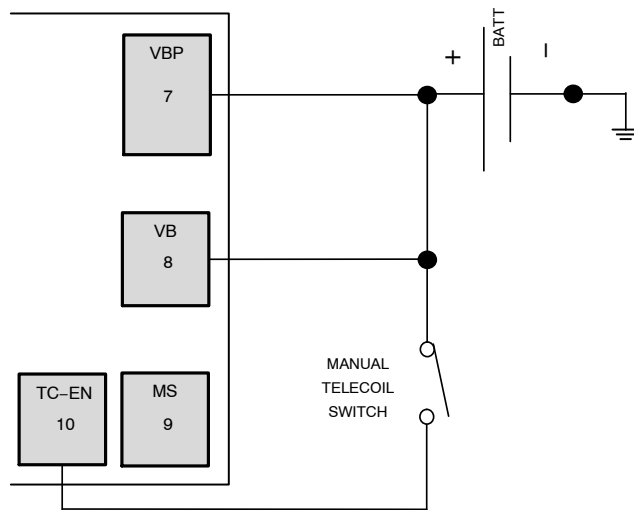

Figure 26. Wiring a Manual Toggle Switch for Telecoil Control
- Figure 26 shows how to wire a manual toggle switch to control a telecoil.